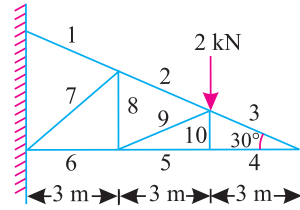

Fig. 13.39.
3. A cantilever truss carries two vertical load as shown in the Fig. 13.39. Find the magnitude and nature of stresses in the members 2, 9, 5 and 10 of the truss.